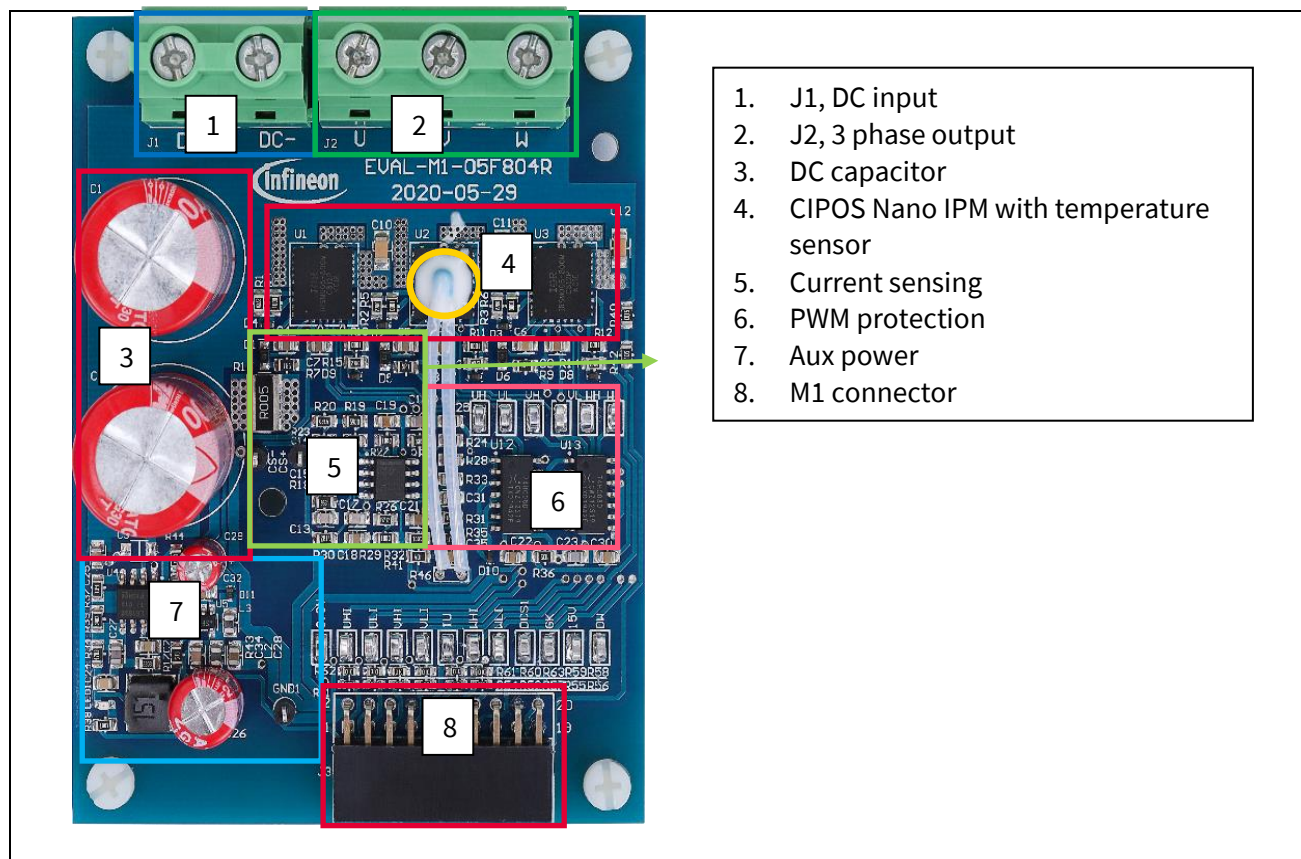

Figure 4 EVAL-M1-05F804R function blocks
3. Connect EVAL-M1-101T’s M1 20-pin interface connector (J2) to power board (For example EVAL-M1-05F804R, see Figure 4).